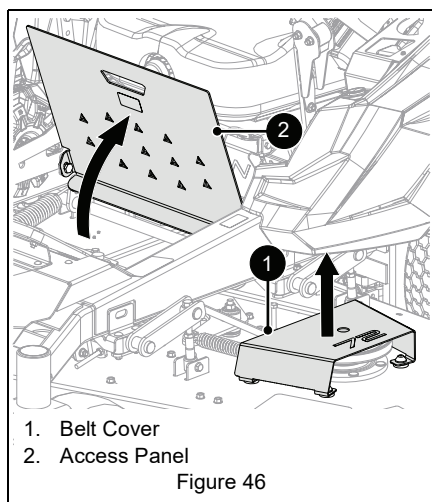

Figure 46
5. Lift and rotate access panel rearward until it locks into place. See Figure 46.